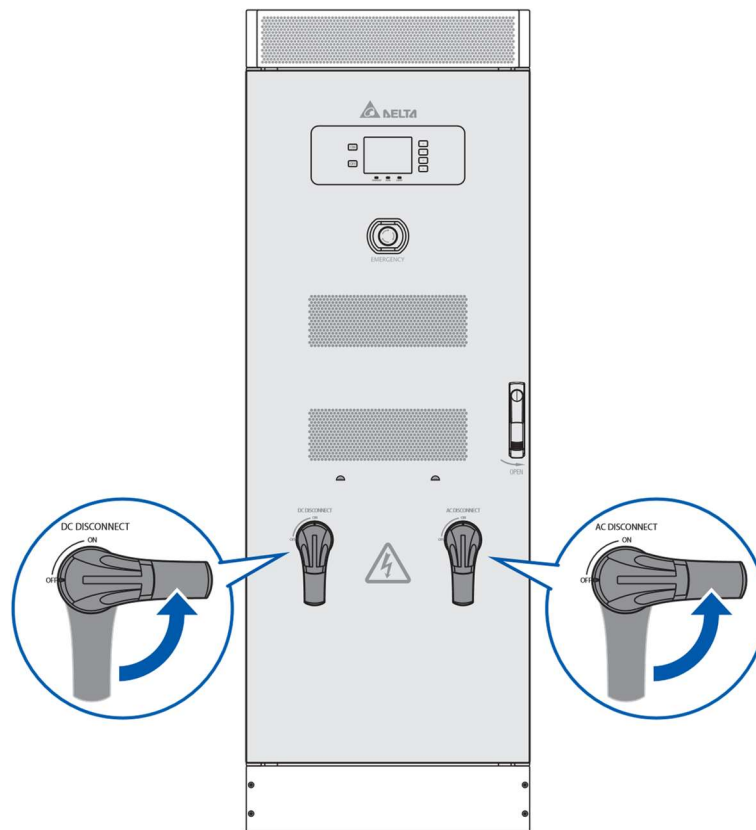

Figure 4. Turn AC and DC Switches to OFF State
3. Turn the AC and DC switches on the front door to **OFF** state as shown in Figure 4.